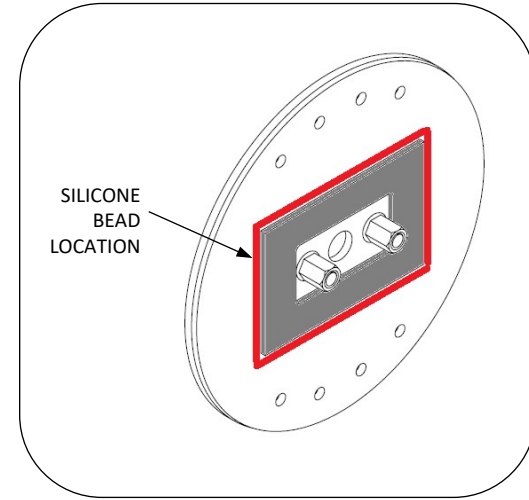

Fig. 1A – SILICONE BEAD, IF REQUIRED
4. Apply a bead of silicone to back of bracket plate as shown in Fig. 1A as needed to ensure the plate seals to the single-gang box and the wall.